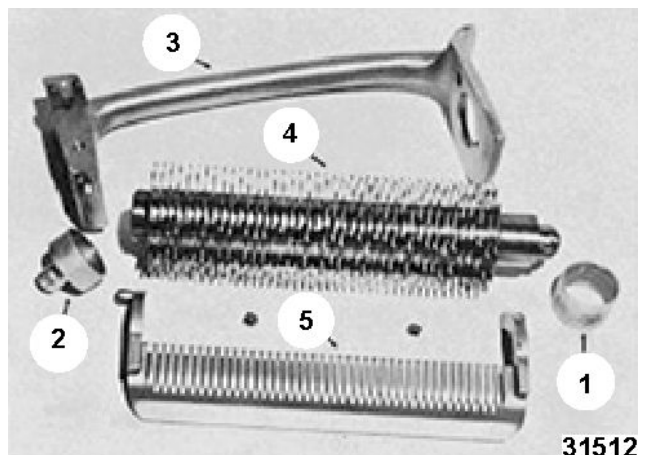

Fig. 12
1. Remove the stripper (5, Fig. 12) from the hanger (3, Fig. 12).
4. By moving the roller assembly (4, Fig. 12) back and forth, the left bearing (1, Fig. 12) can be removed from the shaft.
6. Remove the right bearing (2, Fig. 12) from the hanger.